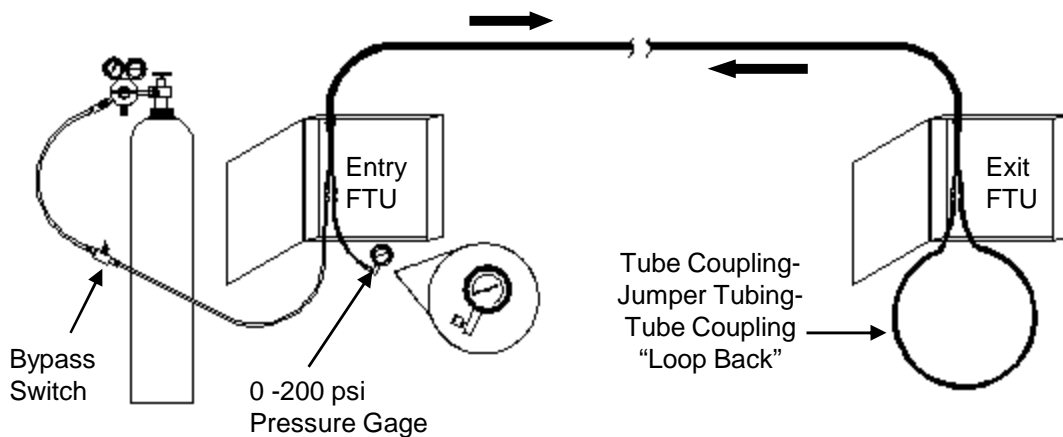

Figure 7
12.2.1 At exit point FTU, use 8mm jumper tubing and Tube Couplings to connect the two span ends together. **See Fig. 7.**
12.2.2 At entry point FTU, connect Bypass Switch to one tube span (serves as supply leg) and 0-200 psi Hand-Held Pressure Gage to other tube span (serves as return leg). **See Fig. 7.**